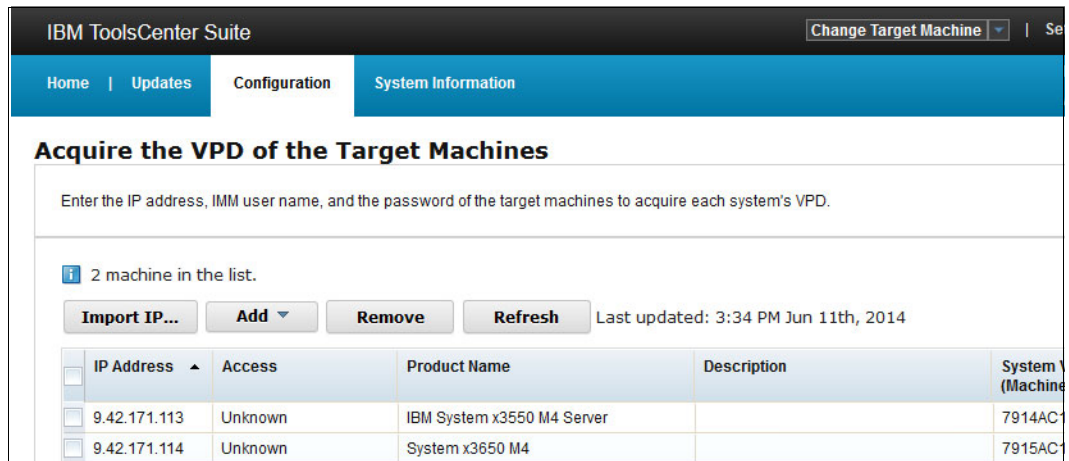

Figure 3-52 Acquire VPD with multiple machines
2. Click **View/Modify** to show which machines were added, as shown in Figure 3-52. From this window, we can Import more machine IP addresses through a .csv file or manually add IP addresses. We can also remove specific machines.